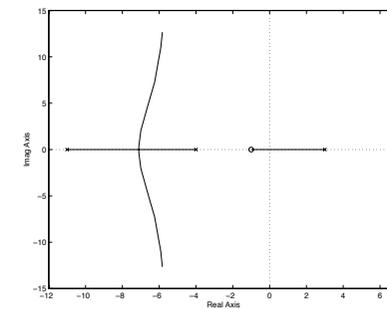

Figure 3.7a
- b) The root locus is shown in Figure 3.7a. The system is asymptotically stable for  $K > 12$ .